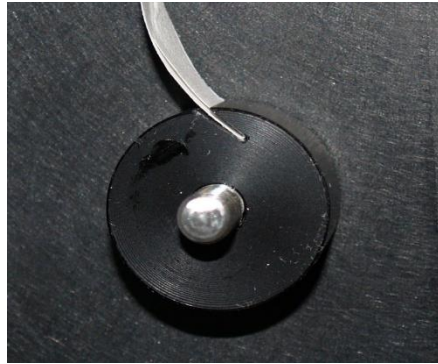

Figure 7-3: Insertion of Tape End into Take-up Reel
- h) Pull the tape up over the upper sample chamber guide pin (5).
- i) Thread the tape over the black aluminium / grey plastic capstan of the pulse counter (6). (Note that this capstan may be either aluminium or plastic).
- j) Fold over the first inch of the tape, and then slide this folded end of the tape into the slot on the take-up reel (2), as shown in Figure 7-3.